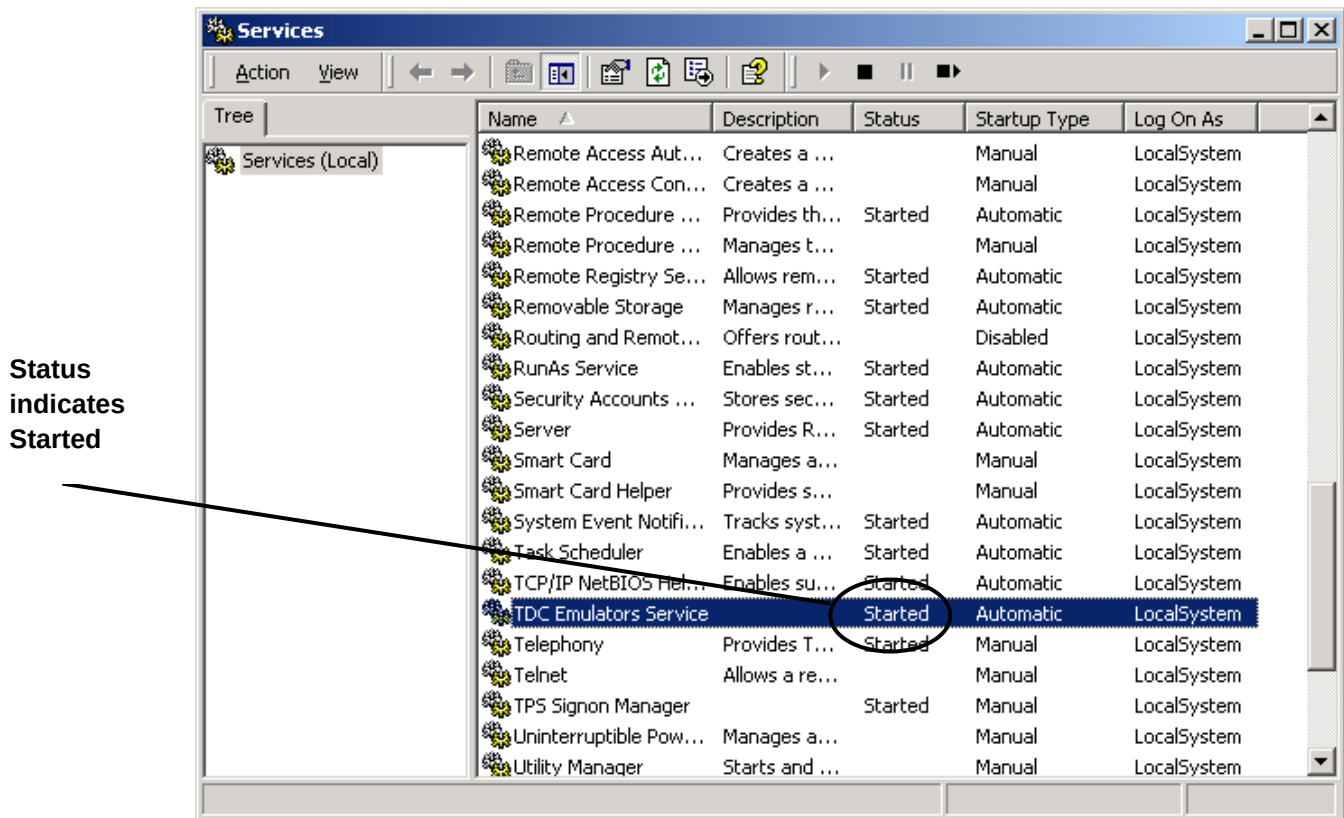

Figure 2.3-3 TDC Emulators Service Started
2.3.18	A message box appears indicating that the service is being started. This will take about 10-15 seconds. The Services display should appear as in Figure 2.3-3 below.